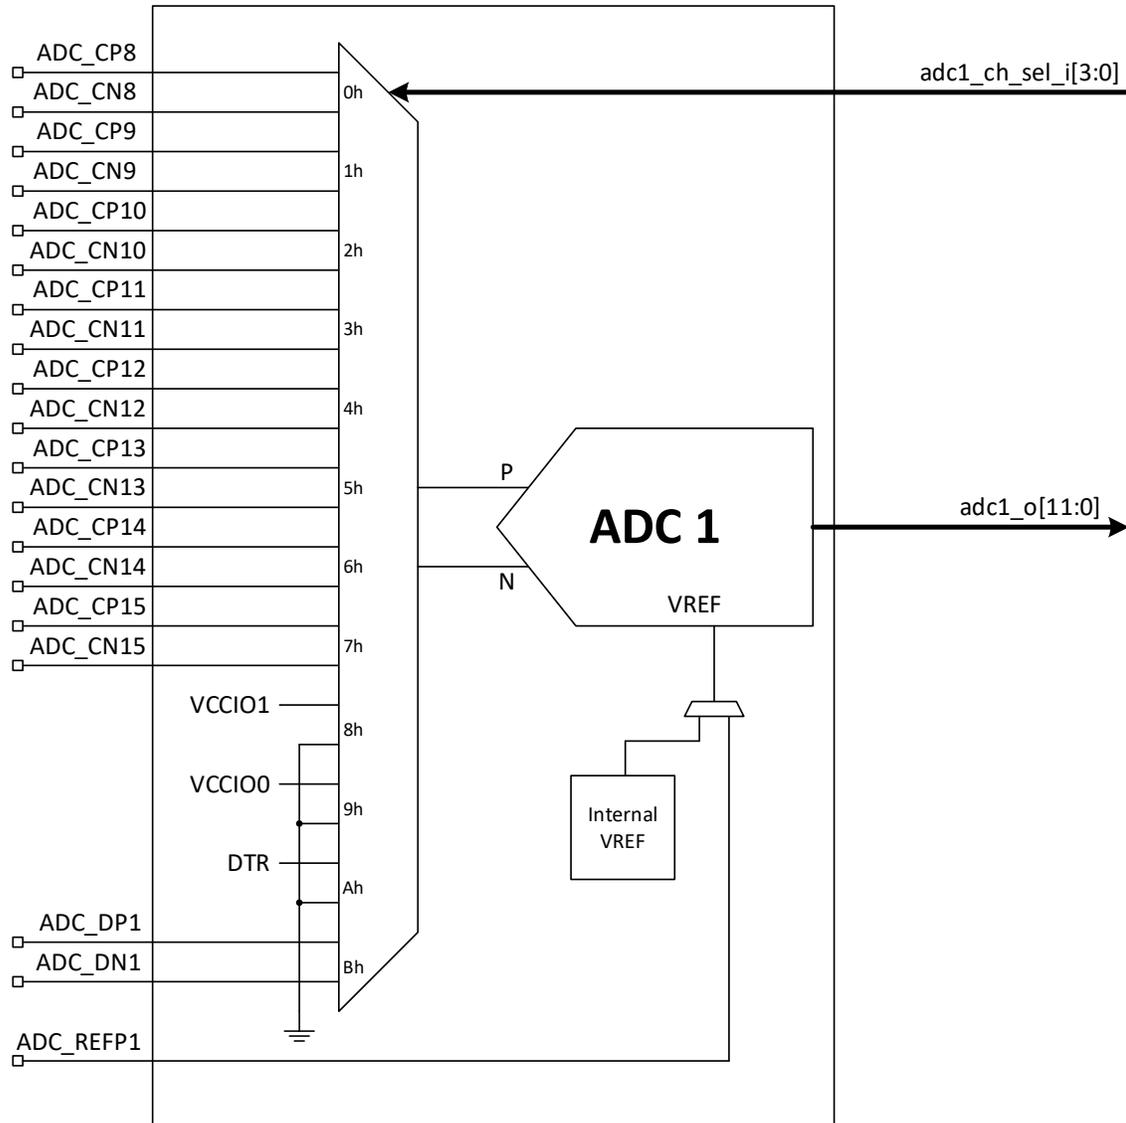

Figure 2.3. ADC Core Module ADC 1 Block
| Figure 2.3. ADC Core Module ADC 1 Block | 10 |
- ADC 1 Block (see Figure 2.3):